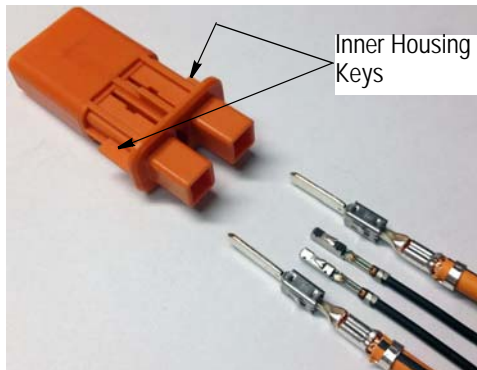
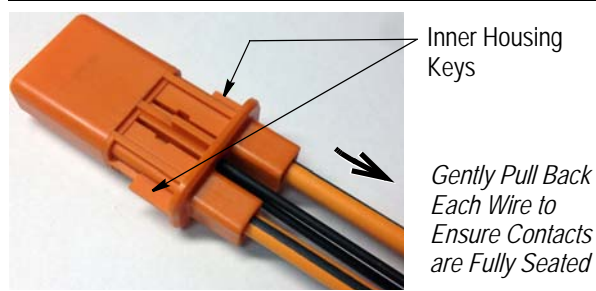

Figure 5
Figure 6
3. Insert each contact into the appropriate contact cavity of the inner housing, taking note of the cavity identification numbers marked on the wire end of the inner housing. Ensure correct inner housing key is used for intended outer housing. See Figure 5. Gently pull back on each wire to ensure that the contacts are fully seated. See Figure 6.
- Deleted text from callout in Figure 4 and added new callouts to Figures 5 and 6